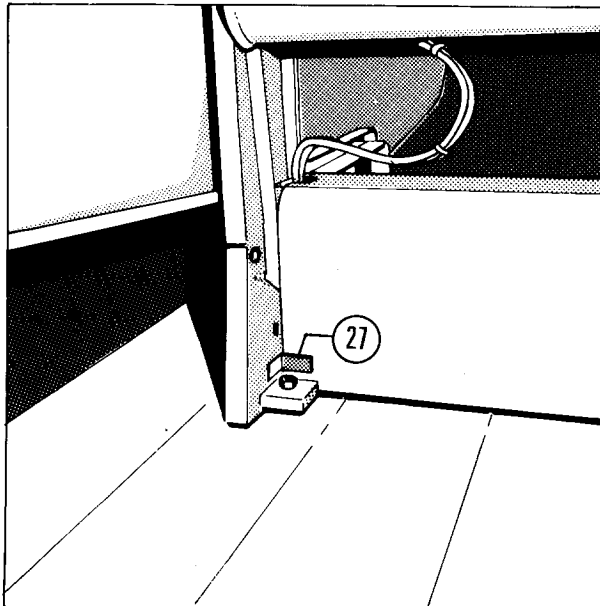

Fig. 8
Put unit into vertical position. Visually check vertical position on the angle indicator and with water level holding against profile rail. In the true vertical position the switch trigger (item 27) must be actuated. If not, adjust the trigger by tilting the table to horizontal position, loosen the screws and move the trigger in desired direction. Refer to (Fig. 8/item 27). Tighten trigger in proper location. Repeat this procedure several times.